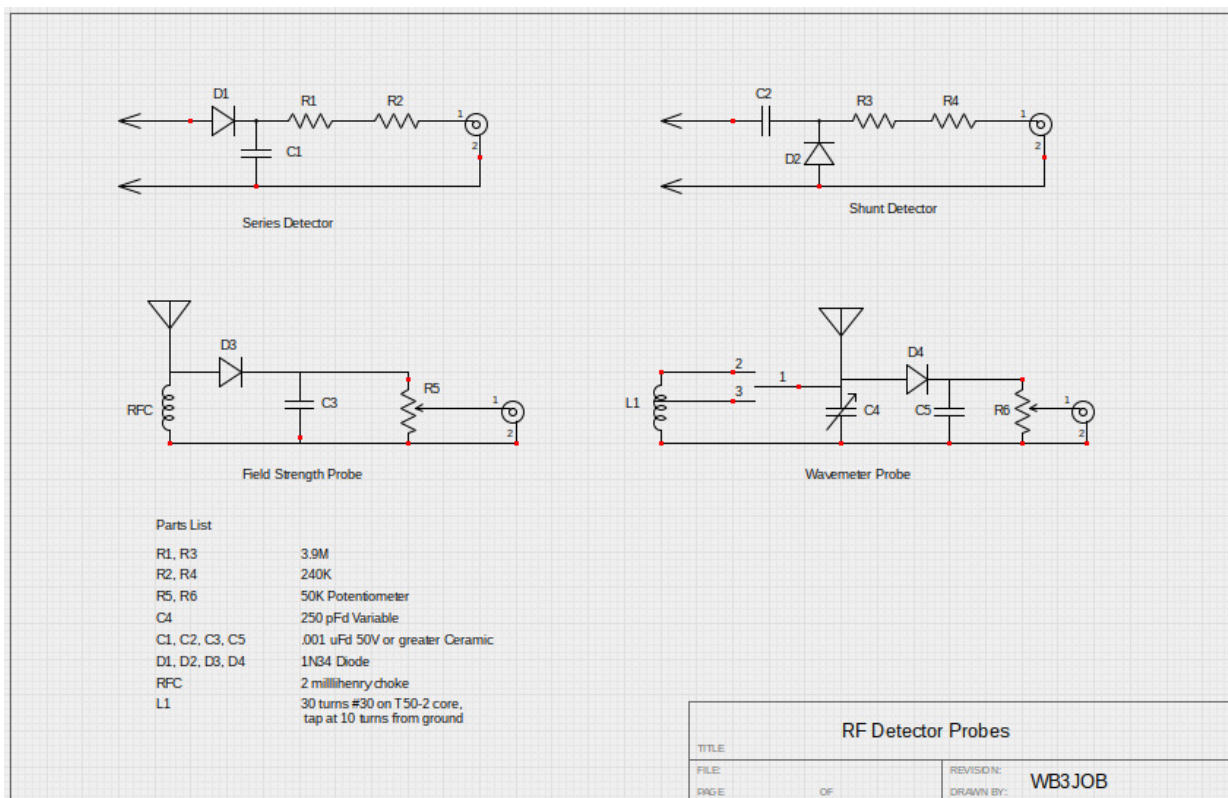

Figure 1 RF Probes
**Probes;** There are four basic probes that I would design and construct; two RF detector probes, a field strength probe, and a wave-meter probe. The resulting designs are shown in Figure 1. Two RF detector probes are needed because they have different characteristics. The “Shunt Probe” uses a capacitor in series with the probe and will only respond to AC as the capacitor blocks DC. The “Series Detector” probe will pass DC and will be used for calibration. The wave-meter probe covers the lower HF frequencies. Finally, the field strength probe is useful for HF and VHF frequencies. What is common for these probes is that they all use a standard 1N34 germanium diode. This diode will detect RF at lower levels and has a lower voltage drop than silicon detectors.